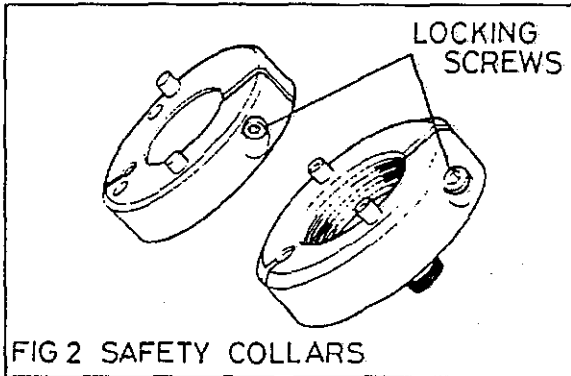

FIG 2 SAFETY COLLARS
- a. Release locking screw on safety collar (fig 2) and remove from spindle.
- b. Depressurise the hydrogrip cutterblock by turning the pressure release screw (2), located in a recess on the barrel of the cutterblock one quarter turn to release, using a 3mm A/F hexagon key.
- c. Slide the cutterblock from the spindle. Always leave the pressure release screw (2) undone when the cutterblock is not in use to avoid distortion to the cutterblock due to the variation in room temperatures.
- c. Fit safety collar (see fig 2) and tighten securing screw.
**Safety Collars (fig 2)****Fitting procedure:**1) *Threaded collar*